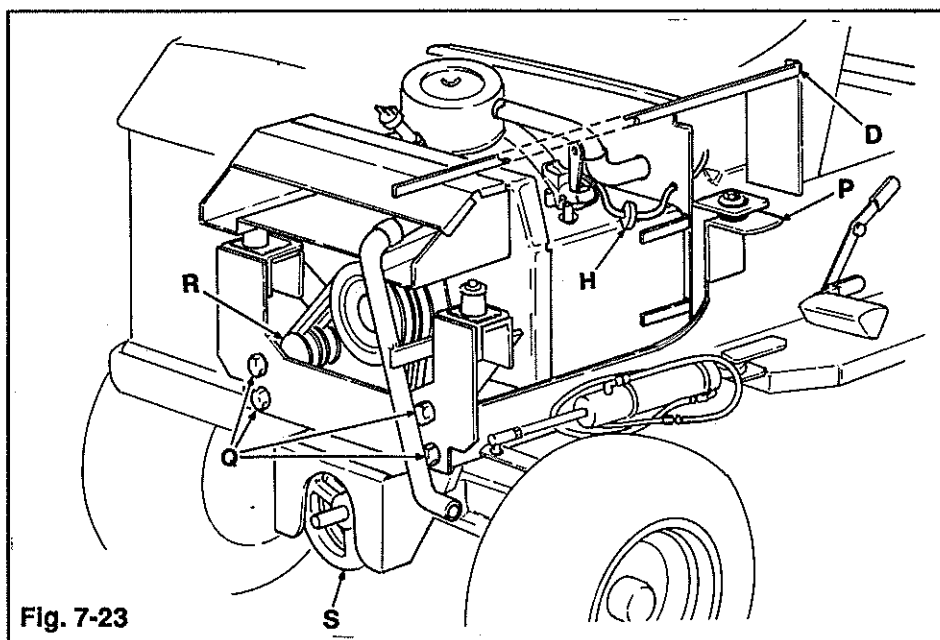

Fig. 7-23
6. Push in idlers (R, Fig. 7-23) and remove belts from clutch.
7. Install springs (D) over studs (A).
8. Install pulley/brake plate assembly over crankshaft and studs (A).
9. Install washer, lockwasher and bolt (B) into crankshaft and tighten between 30-35 ft/lbs (40-47 N/m).
10. Install 4 locknuts (E) onto studs (A).
11. Tighten 4 nuts evenly until a clearance of .010" to .015 (.2-.4 mm) is obtained between rotor (G) and drive plate (I). Check this measurement at each of the 4 window slots located on brake plate.
12. push in idlers (R, Fig. 7-23) and re-attach belts. Re-attach hood, grille and side panels. Close hood and side panels. Re-connect polarized plug to clutch.
1. Securely block PTO belt idler (See Fig. 7-23) to relieve tension for clutch installation.